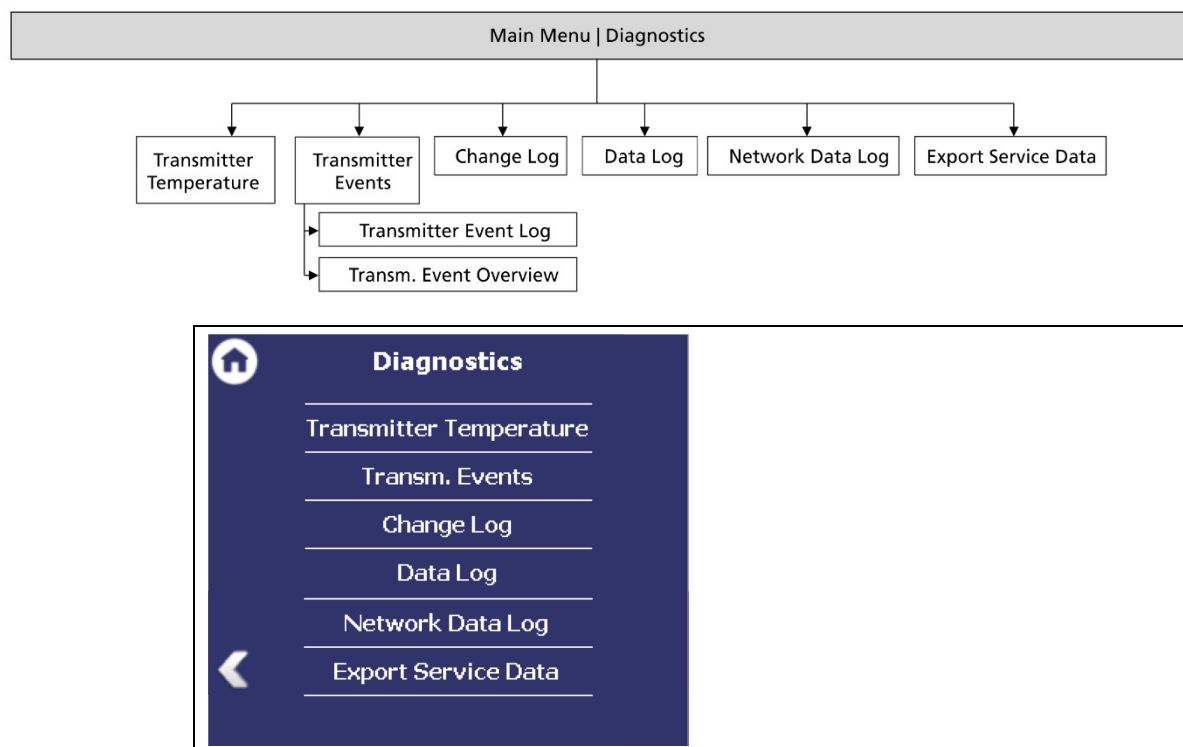

Fig. 104 Menu "Diagnostics"
2. Select the backup file with the buttons (Fig. 104, item 1,3)
- ▶ The date and time of the backup is displayed (Fig. 104, item 5, 6). Only error-free (Fig. 104, item 7) backup files can be loaded.
3. Click on the button "Restore" (Fig. 104, item 4).
4. A confirmation message (Fig. 104, item 8) appears.